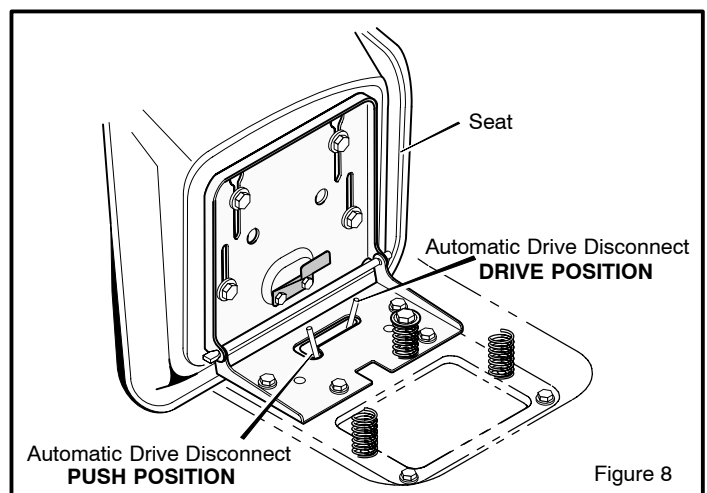

Figure 8
1. The **automatic drive disconnect** must be in the DRIVE position (Figure 8).
3. Move and latch the **automatic drive disconnect** in the PUSH position (Figure 8). The transmission is now *released* and the unit can be pushed.